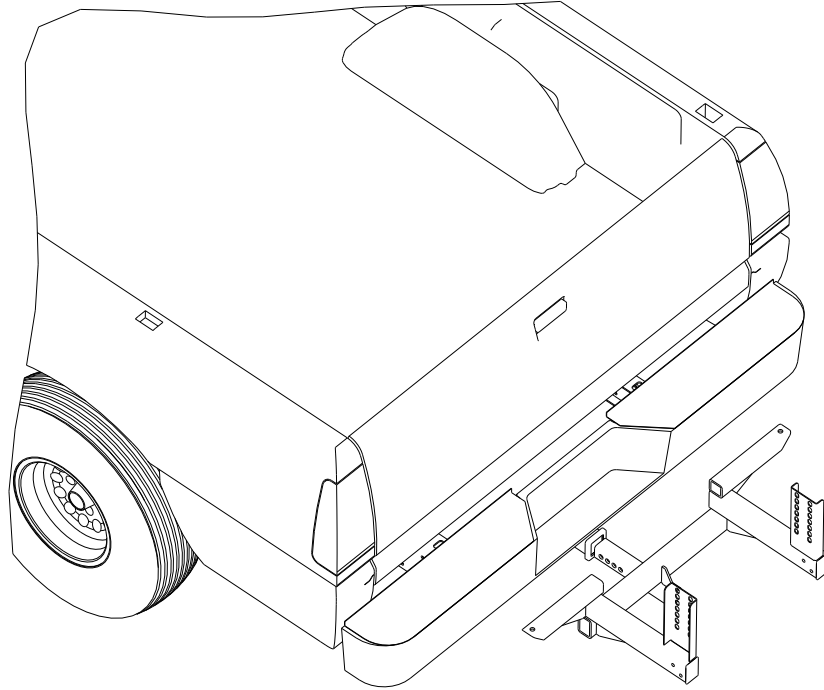

Fig. 1
1. Disconnect frame from hopper. Save $\frac{1}{2}$ -13 x 3.0 stainless screws for further use. Discard $\frac{1}{2}$ -13 zinc plated nuts. Slide frame #3015859 into hitch receiver. Fig.1.